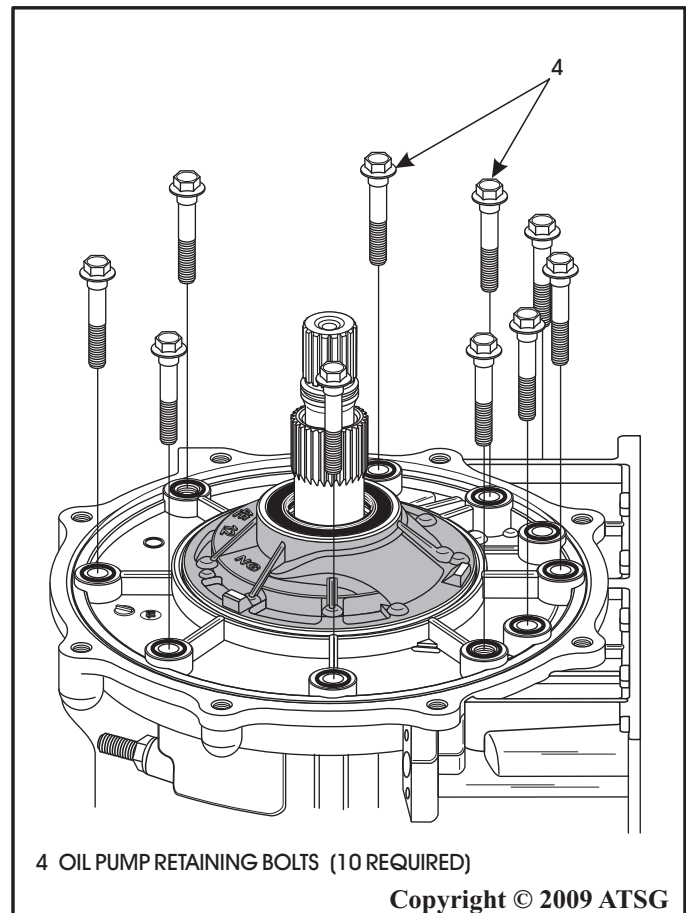

Figure 230
82. Install the ten oil pump to case retaining bolts, as shown in Figure 230.